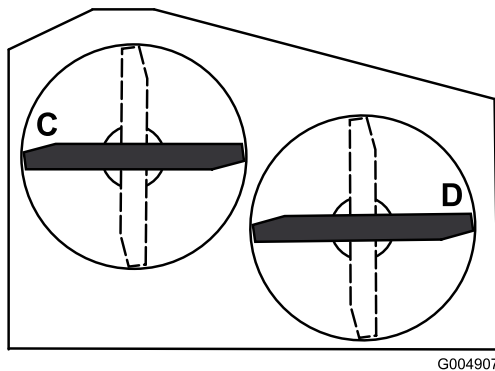

Figure 70
4. For 36 inch mower decks use Figure 70.